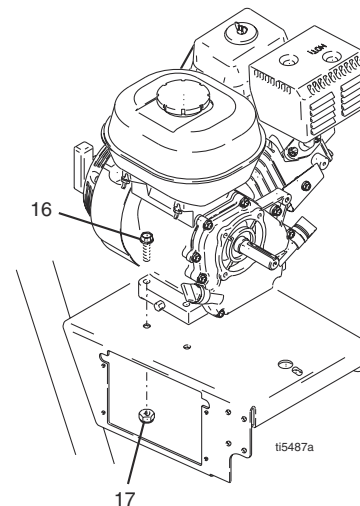

FIG. 13
3. FIG. 13. Remove two locknuts (17) and screws (16) from base of engine.
2. FIG. 13. Install two screws (16) in base of engine and secure with locknuts (17). Torque to 26 ft-lb (22.6 N·m).